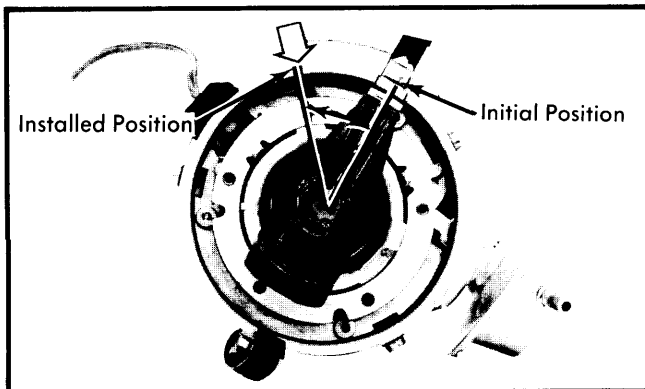

Fig. 4 Distributor Rotor Position Prior to Final Positioning
- Crankshaft should still be in position for firing No. 1 cylinder following valve adjustment. When distributor is pushed into place, rotor will point to mark on housing. See Fig. 4 & 5.